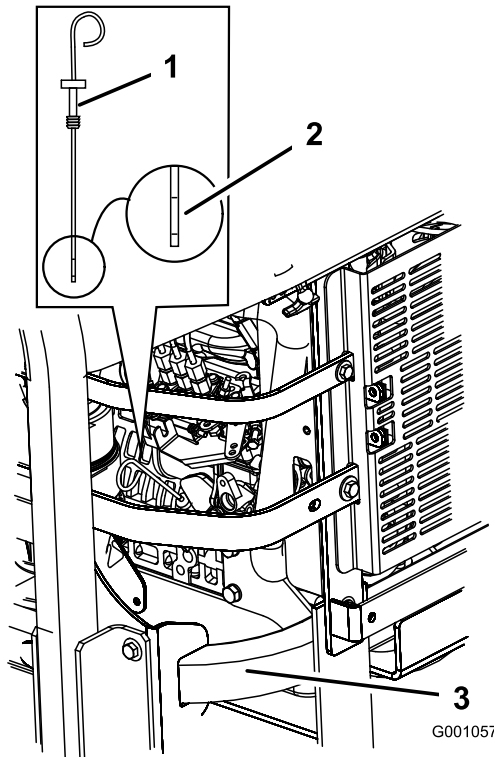

Figure 37
3. Clean around the oil dipstick (Figure 37) so dirt cannot fall into the filler hole and damage the engine.
4. Pull the oil dipstick out and wipe the metal end clean (Figure 37).
5. Slide the oil dipstick fully into the filler tube. Pull the dipstick out and look at the metal end (Figure 37). If the oil level is low, slowly pour only enough oil into the fill hole to raise the level to the full mark.